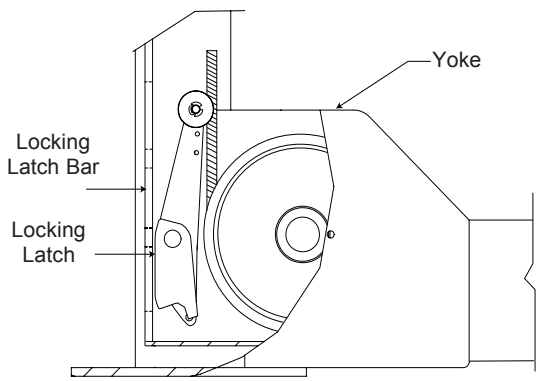

Fig. 25
- J. Actuate air valve and check latch operation on all four corners. The locking latches should pull in beyond yoke ends to clear the latch bars located in all four columns, Fig. 25.